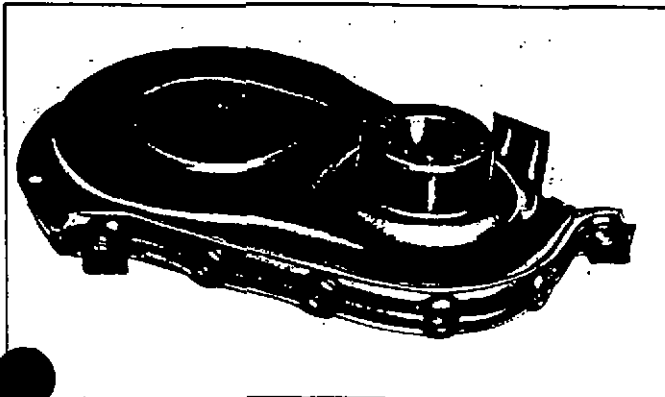

Fig. 12L—J-23042 Centering Tool in Cover
2. Install centering Tool J-966 or Tool J-21742 in crankcase front cover seal (fig. 12L).